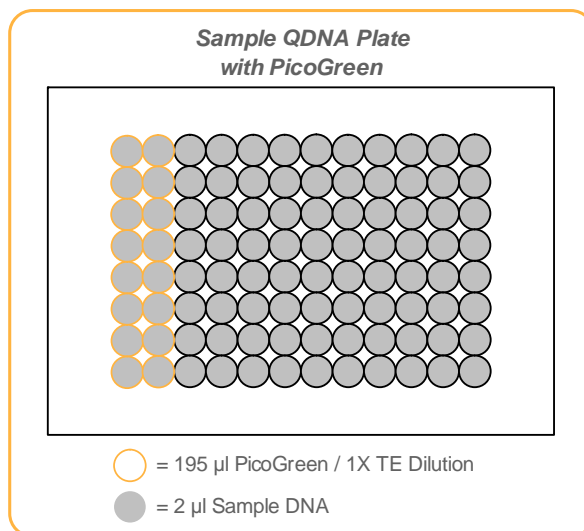

Figure 15 Sample QDNA Plate with PicoGreen
1. Using a multichannel pipette, transfer 195 µl PicoGreen/1X TE dilution into each well of columns 1 and 2 of the Fluotrac plate labelled "Sample QDNA" (Figure 15).